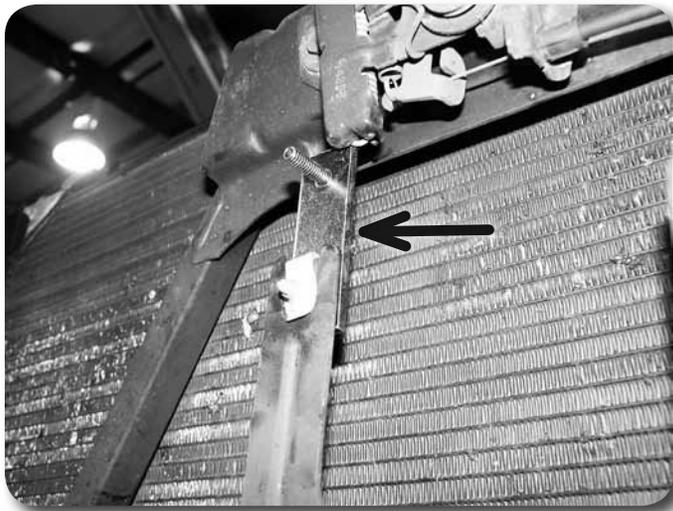

Figure 23
44. Attach the provided 2" relocation brackets to the cooler using the repositioned nut clips and factory bolts. The threaded stud on the relocation bracket should be facing out away from the radiator **Figure 23**. Be sure the relocation brackets are vertical and torque the factory bolts to 15 ft-lbs.